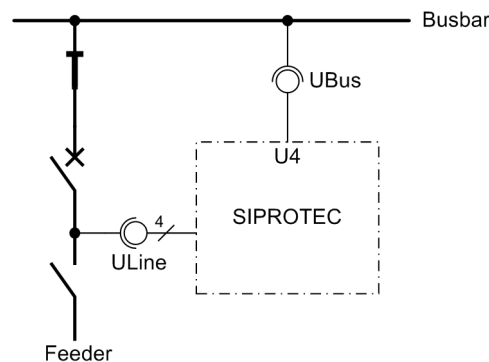

Figure 3-29 Measuring voltages for the synchronism check
- Then the circuit breaker is closed while the line isolator is open (see Figure 3-29). Both voltage transformers therefore measure the same voltage.